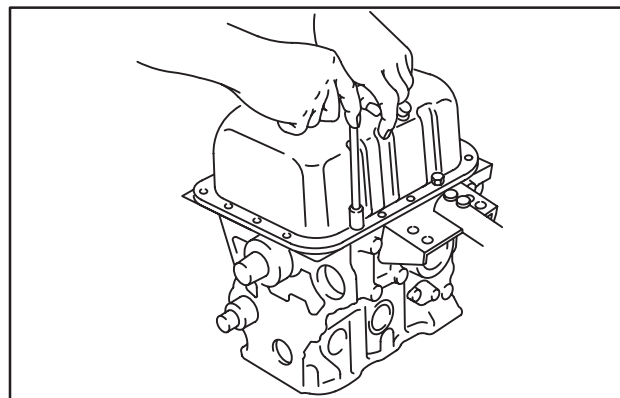

Fig. 1 – Removing Oil Pan
1. Remove oil pan screws and nuts. Remove oil pan and discard gasket, Fig. 1.